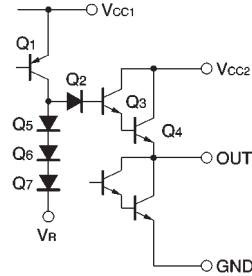

Fig.8
(4)  $V_{CC1}$ ,  $V_{CC2}$ , and  $V_R$  are related to each other as shown in the output circuit diagram of Fig. 8. Their values should be kept within the following ranges.